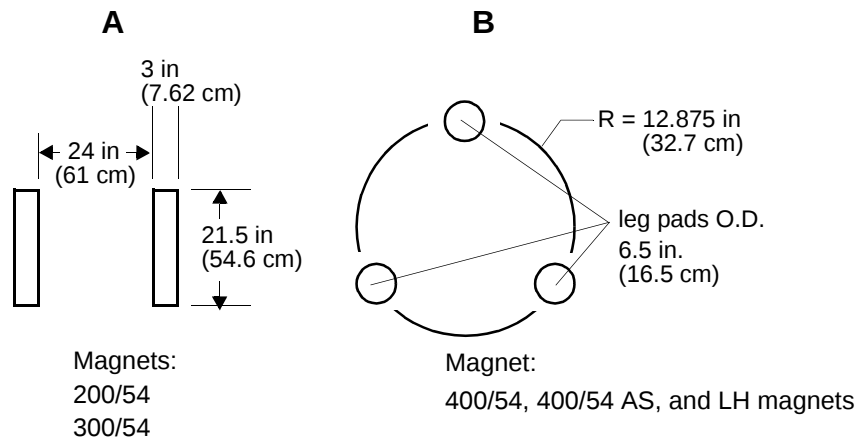
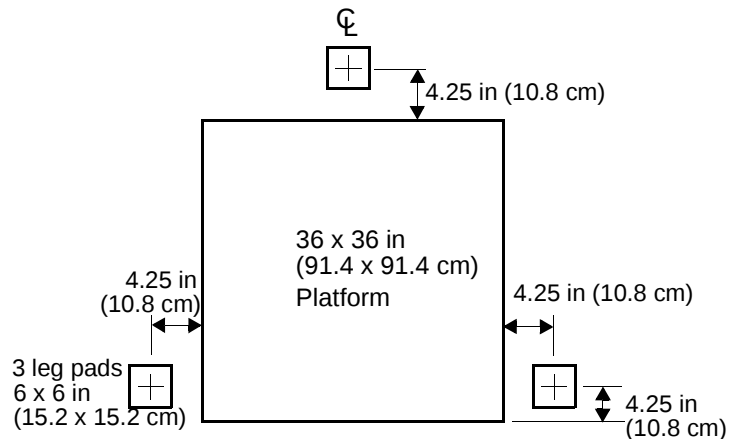
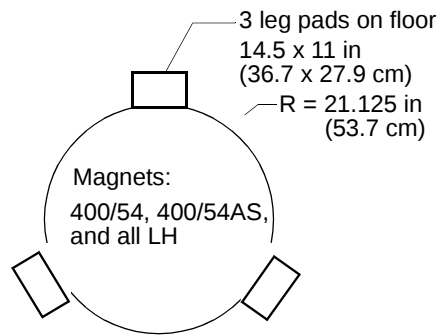

Figure 2. Plan Views of Floor Contact Points of Magnet Stands
Figure 3. Platform Antivibration System Leg Placements and Sizes
Figure 4. Magnet Leg Antivibration System Leg Placement and Sizes
* Dimensions and weights are approximate and subject to change. Height dimensions do not include optional accessories such as a siphon or plow-out tube. See Figure 2, Figure 3, and Figure 4 on page 17 for the various magnet footprints.
200/54 and 300/54 magnets without the SMS autosampler: The antivibration system consists of a square table supported by three legs. See Figure 3 for leg placements and sizes.
400/54 magnet without the SMS autosampler: The antivibration system for this magnet consists of dampening equipment integrated into the magnet legs, as illustrated in Figure 4.